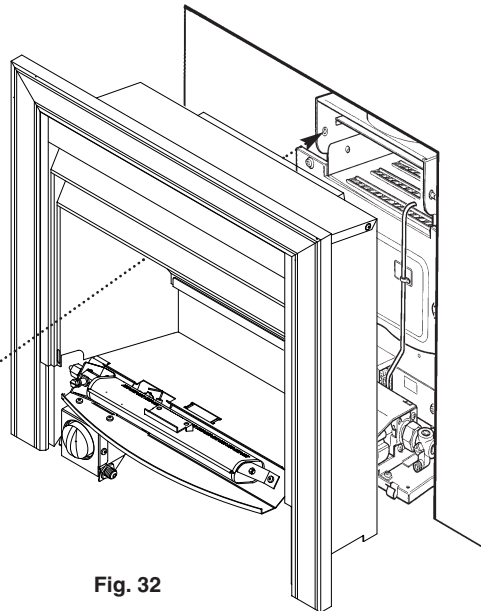

Fig. 32
9. Slide the fire combustion box forward to disengage it from the flue spigot and lift away (Fig. 32).